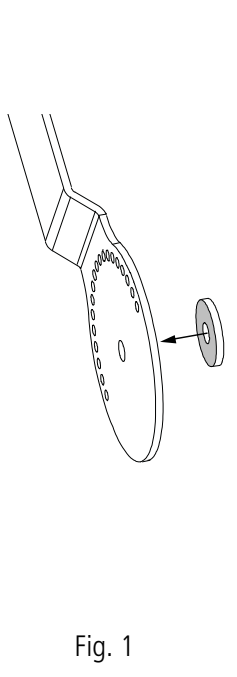

Fig. 1
1. Stick the adhesive rubber spacer on both inner sides of the bracket or extensions (Fig. 1).